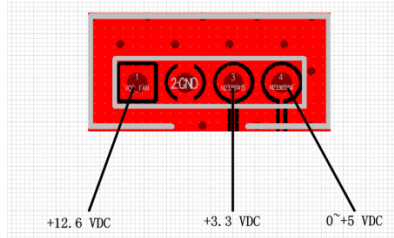

Figure 6-2 Fan power cable connections
- 1、 Remove the fan bracket, from the analyzer to expose the fan power cable connections on the Mb panel. Refer to Figure 6-2 for location of these connections. Refer to “Removing and Replacing the Fan A7”